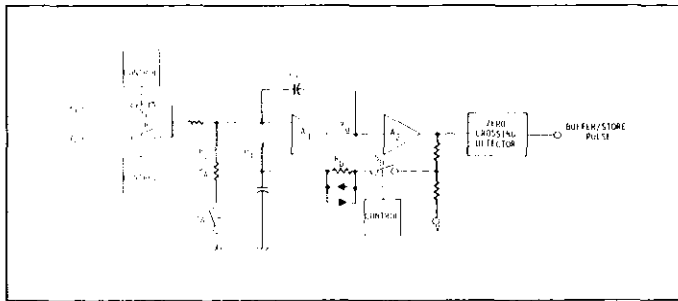

FIGURE 15. Analog-to-Digital Converter.
d). Integrator. The operation of the Integrator is controlled by switches identified as S_A , S_D , S_X , and S_R as shown in Figure 15. Switch S_X (Sampling Switch) is composed of Q302. Switch S_D (Zeroing Switch) is composed of transistors Q305 and Q315. Transistors Q306, Q307 are control